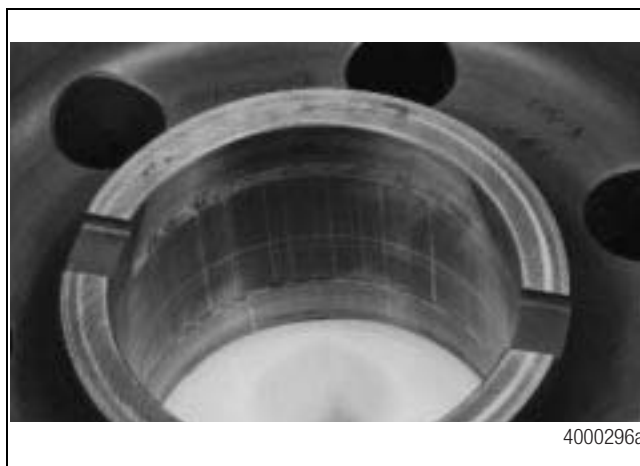

Figure 5.9
- Deep gouges or metal transfer along the input gear journals. Figure 5.9.